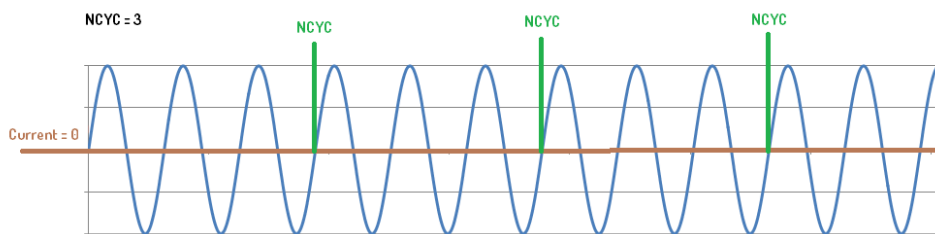

Figure 95. Trigger out event - number of cycles.
- NOC (number of cycles) – An event triggered following a specified number of signal cycles (only applicable to tACS) (Figure 95)